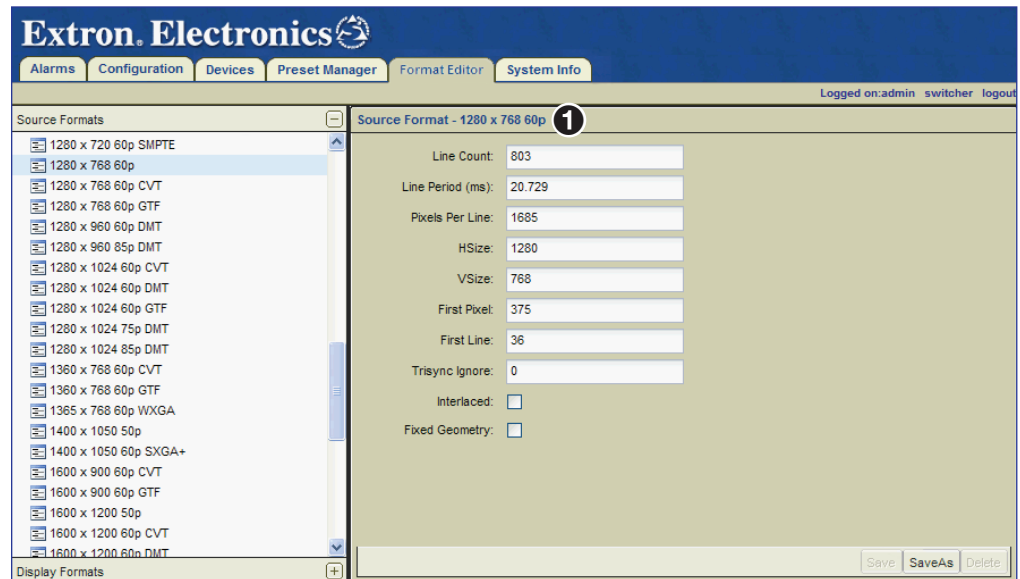

Figure 131. New Source Format Saved
19. The name of the new source is listed above the source format properties (see figure 131, ❶).